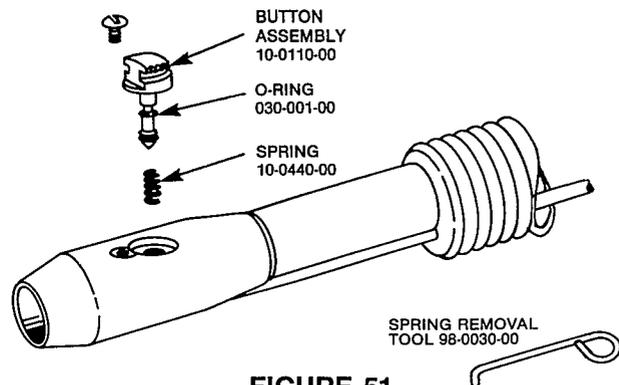

FIGURE 51
**BUTTON REPLACEMENT** If air leakage develops around the AVS Oral Evacuator Button, install a new button assembly. The AVS Button Kit (A-dec part no. 10-0600-00) contains the new button with O-rings, a new spring, and a tool for removing the old spring (refer to Figure 51).